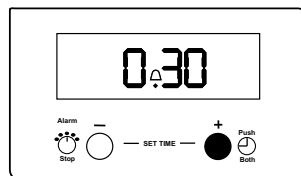

Fig.6
Release button (1) and press and hold button (2). The display will count up in one minute intervals until the interval to be timed is reached e.g. 30 minutes, see Fig. 6. If necessary press and hold button (1) to achieve the correct time interval.